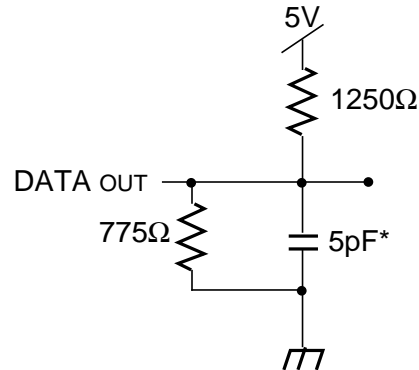

Figure 2. Output Test Load
1. Transition is measured ±500mV from Low or High-impedance voltage Output Test Load (Figure 2).
1. Transition is measured $\pm 500mV$ from Low or High-impedance voltage with Output Test Load (Figure 2). This parameter is guaranteed by device characterization but is not production tested.
7. This parameter is determined by device characterization, but is not production tested. Transition is measured +/- 500mV from steady state with the Output Test Load (Figure 2).